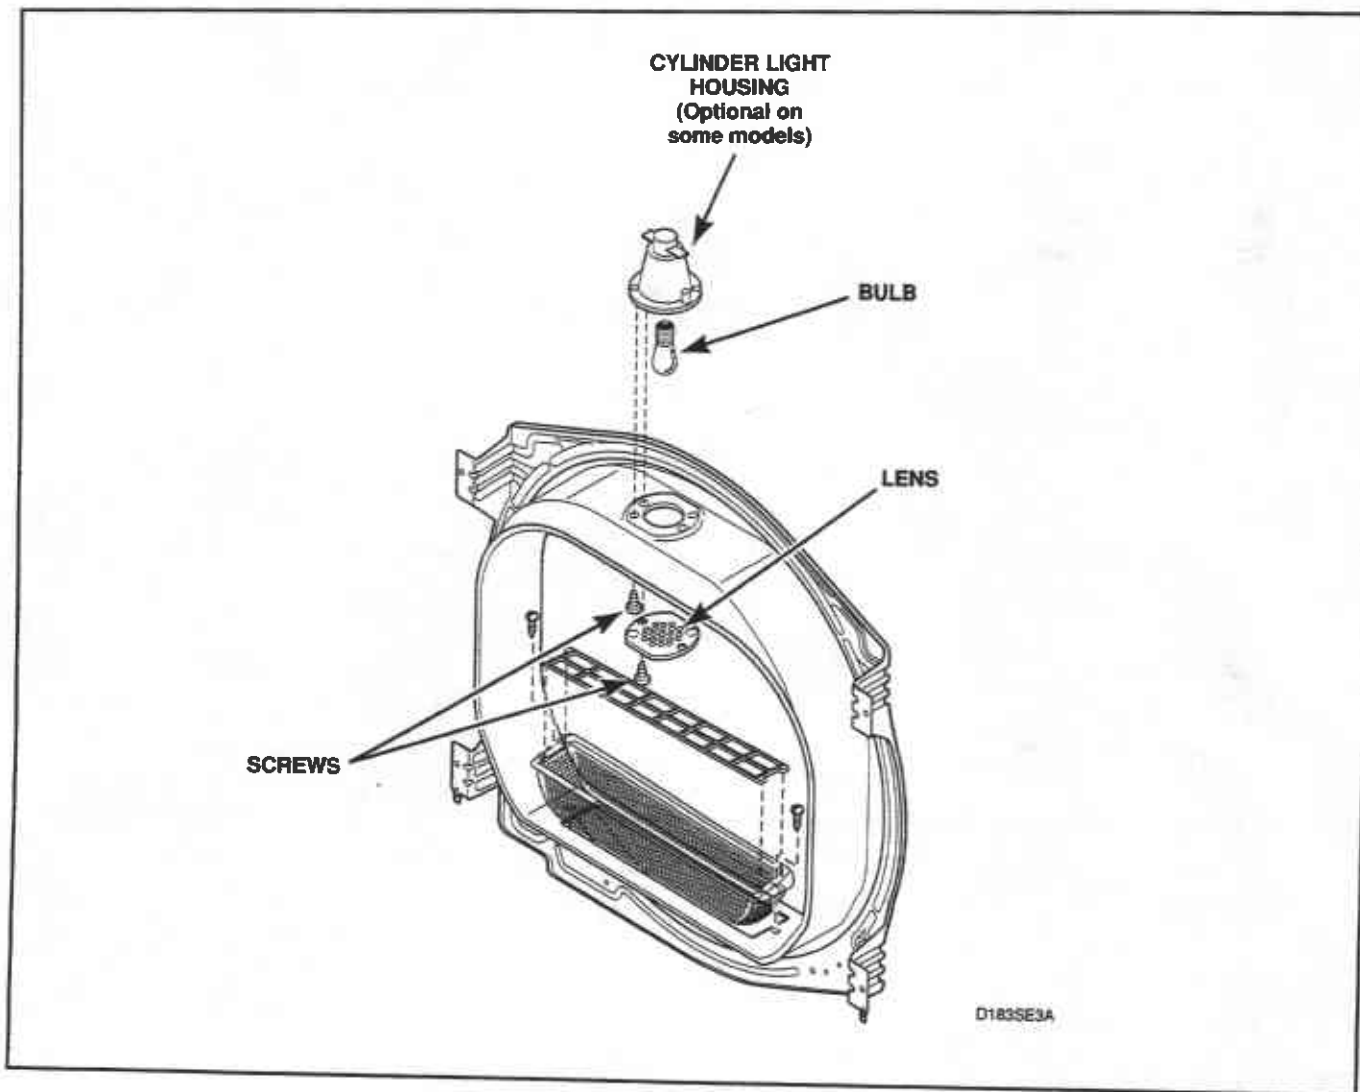

Figure 32
28. CYLINDER LIGHT (Figure 32)
- Open loading door and remove screws holding the lens to the front bulkhead, Figure 32.
29. CYLINDER LIGHT RECEPTACLE (Figure 32)
- Remove two screws holding receptacle to front bulkhead, Figure 32.